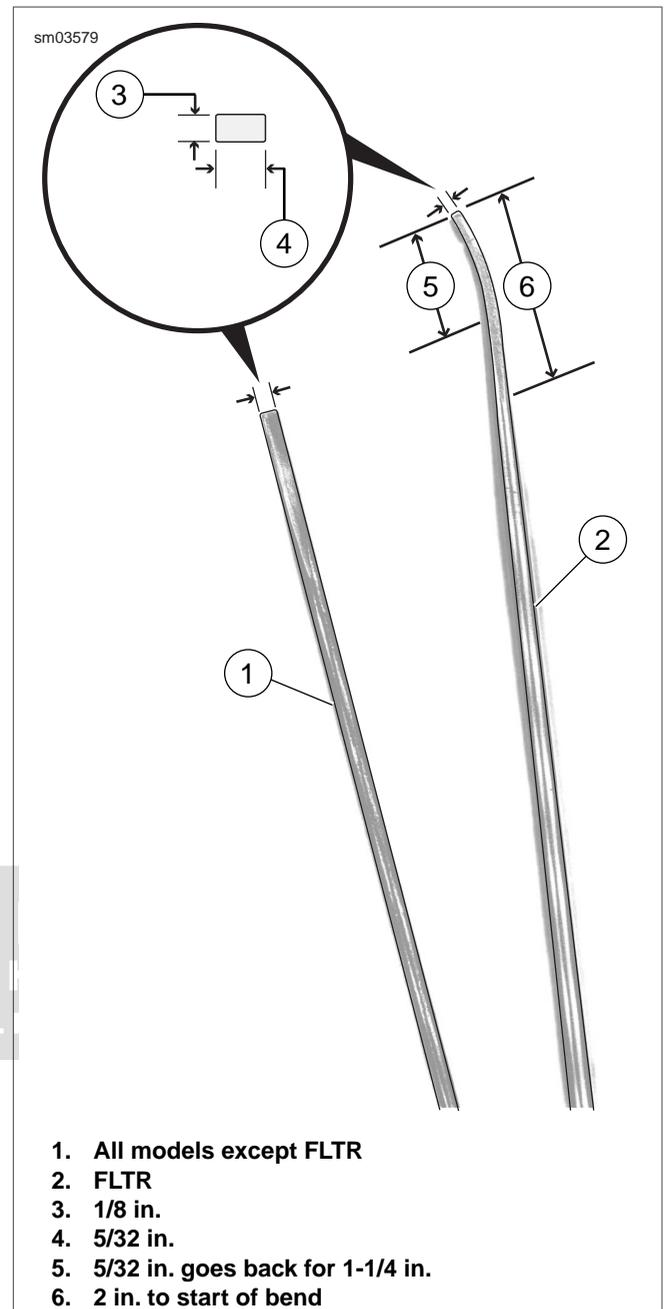

Figure 1-42. Fashion Bearing Adjuster Tool
4. Fashion a bearing adjuster tool using a drill rod 1/4 in. (6.4 mm) in diameter and 16 in. (406.4 mm) long. See Figure 1-42.